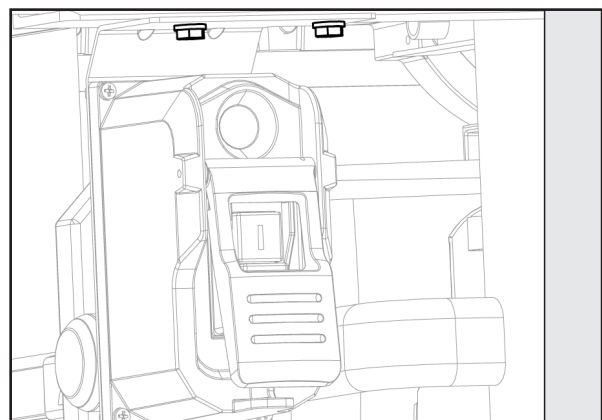

FIGURE 14
- Attach the fence guide to the front rail using four (for 30" versions) six (for 52" versions) 1/4-20 x 1/2inch hex button head screws and 1/4-inch spring washers through the holes (B) on the bottom side of the front rail.
- Align the two holes in the power control box bracket with the holes underneath the front rail, shown in Figure 14 (C), located on the left side of the saw. Secure the power control box to the front rail using two 1/4-20 x 1/2-inch hex head cap screws with spring washers .